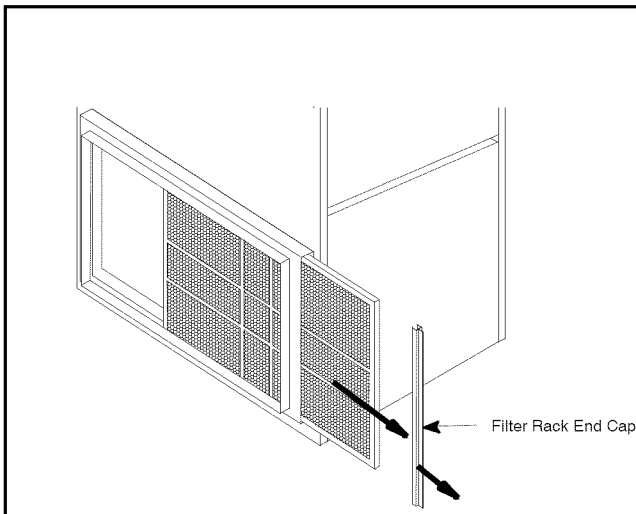
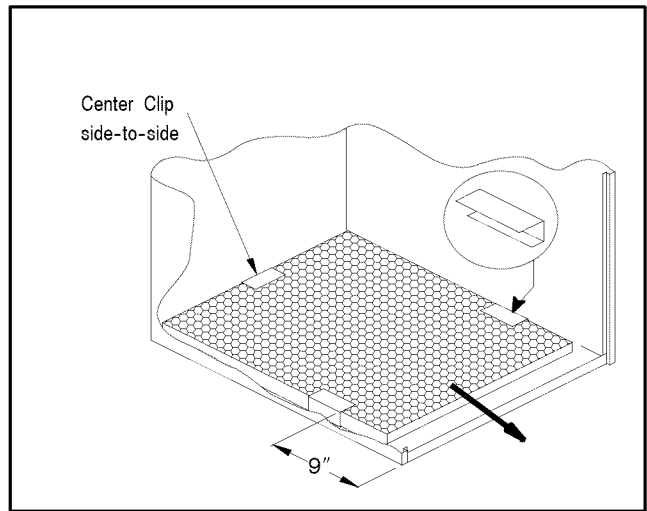

Fig. 4 - Filter Rack Outside Furnace
Fig. 5 - Bottom Mounted Filter Inside Furnace
See Fig. 4 for an illustration of the gas control valve.
3. Remove the burner compartment door by removing the two(2) screws securing the door in front and lifting the door up and outwards. Removing the door will expose the gas control valve knob.
4. Turn the gas control valve to the OFF position. See Fig. 4.
5. Wait five (5) minutes to clear out any gas. If you then smell gas, STOP! Follow the safety information on the cover of this manual. If you do not smell gas, go to the next step.
6. Turn the gas control valve to the ON position. See Fig. 4.
The filter may be installed inside the bottom of the furnace blower compartment, or the filter(s) rack may be installed under the furnace or on either or both sides of the furnace. A plastic end cap(s) is inserted in the filter rack(s) after the filter(s) is installed. The end cap keeps air from escaping around the open end of the filter rack. See Fig. 4 and Fig. 5 for side and bottom locations. Rack end cap is similar for bottom mounted filter rack.
3. Slide the filter out of the filter rack. See Fig. 4.
3. Slide filter straight out toward you. See Fig. 5.
A plastic end cap is inserted in the filter rack after the filter is installed. The end cap keeps air from escaping around the open end of the filter rack. See Fig. 4 for removal of filter.
3. Slide filter straight out toward you. (See Fig. 5.)